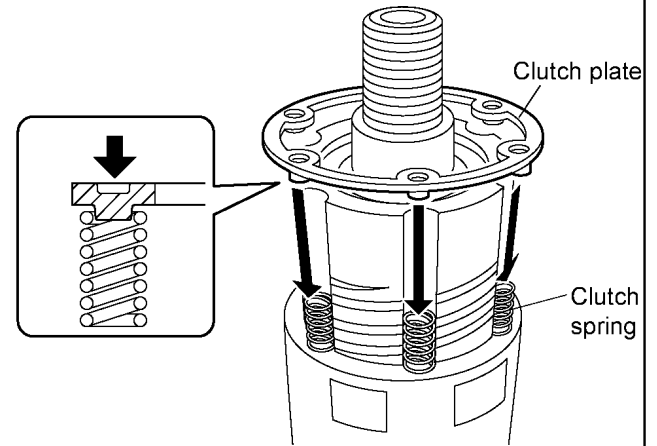

Fig. 11
4. Install steel balls, pins and clutch springs into 6 holes. (See Fig. 11)